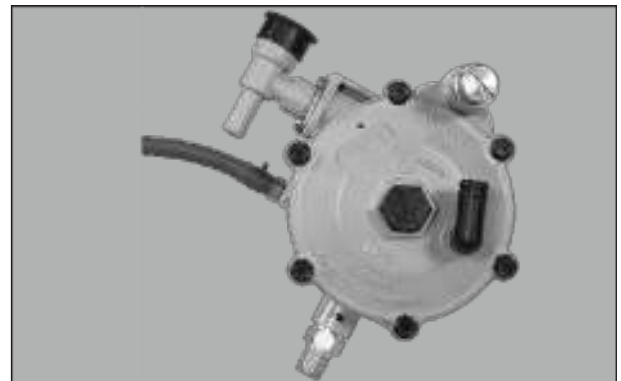

Fig. 7.26
- Loosen and remove 6 nos. Hexagonal flange screw from bonnet secondary. Take out the bonnet secondary. (Fig. 7.26)